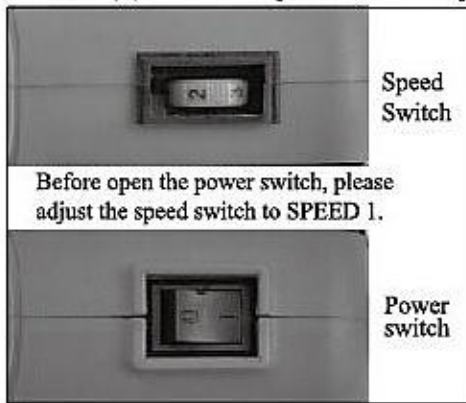

Fig.3 (Switch)
2. Before startup, make sure that the switch of the machine is set to the OFF position (as shown in Fig.3).